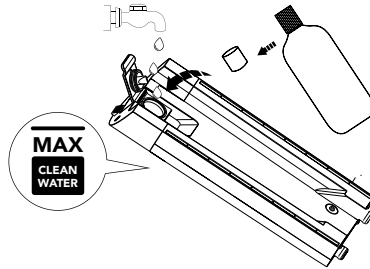

Fig 6
1. Open the top lid of the clean water tank and add clean water (under 60°C) until it reaches the MAX clean water line (Fig 6). For deeper cleaning, add a small amount of Corvan floor cleaning solution using a standard cap (refer to the label for dosage instructions).